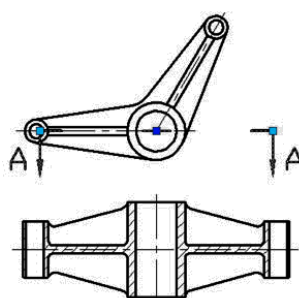

Fig 4.1
**4. Test Dynamic Block:** Open the graphic which needs to be dimensioned and insert the completed dynamic block (Fig 4.1).